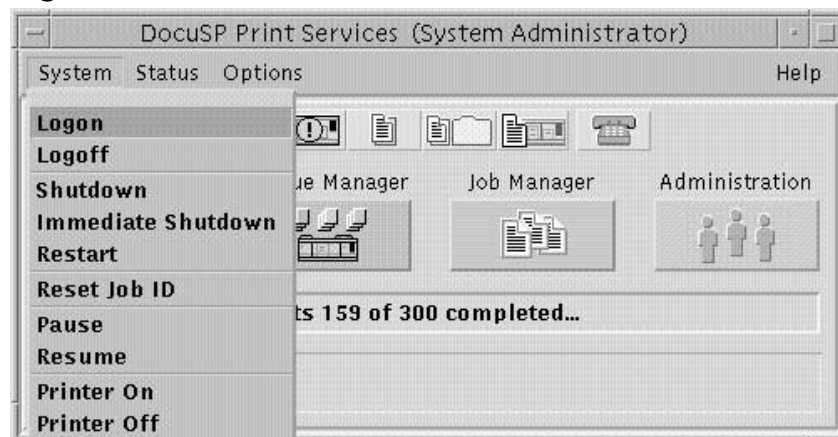

Figure 1-2: The System Option Menu
- b) Pull down the System menu and select **Logon**, as shown in Figure 1-2.